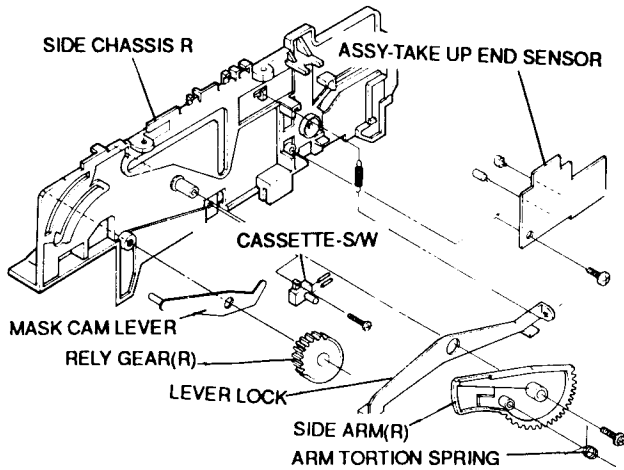

Fig. 18
1. Release tab of the cassette S/W and remove it . (Fig. 18).